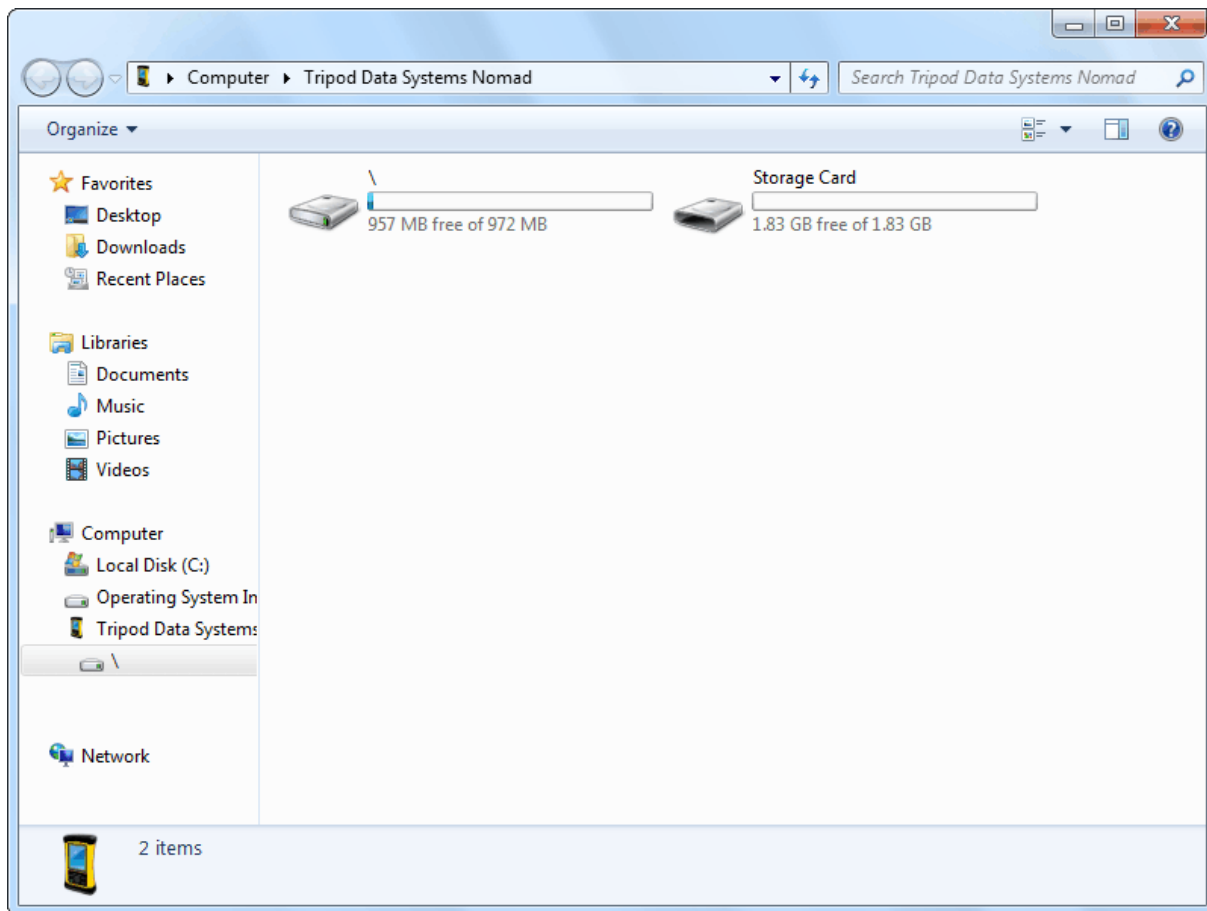

Figure 80. The trans-SPEC Computer's Top-Level File Structure.
- 5) Windows Explorer will open and the Detective-EX's computer will be listed as shown in Fig. 80. Stored search and identification files will be located in the SD card's **Data** folder or in the **My Documents** folder, depending on the location set on the Spectra dialog (see Section ?).